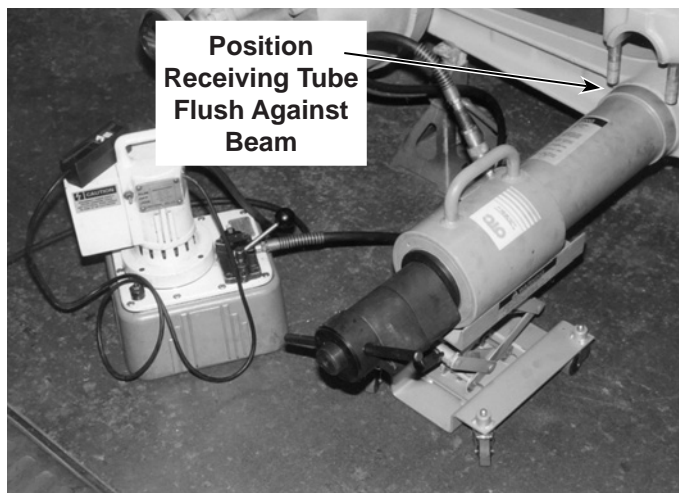

Figure 10
4. Slide the cylinder screw through the bore. Advance the cylinder and dolly assembly until the cylinder receiving tube is flush against the beam face. See Figure 10.